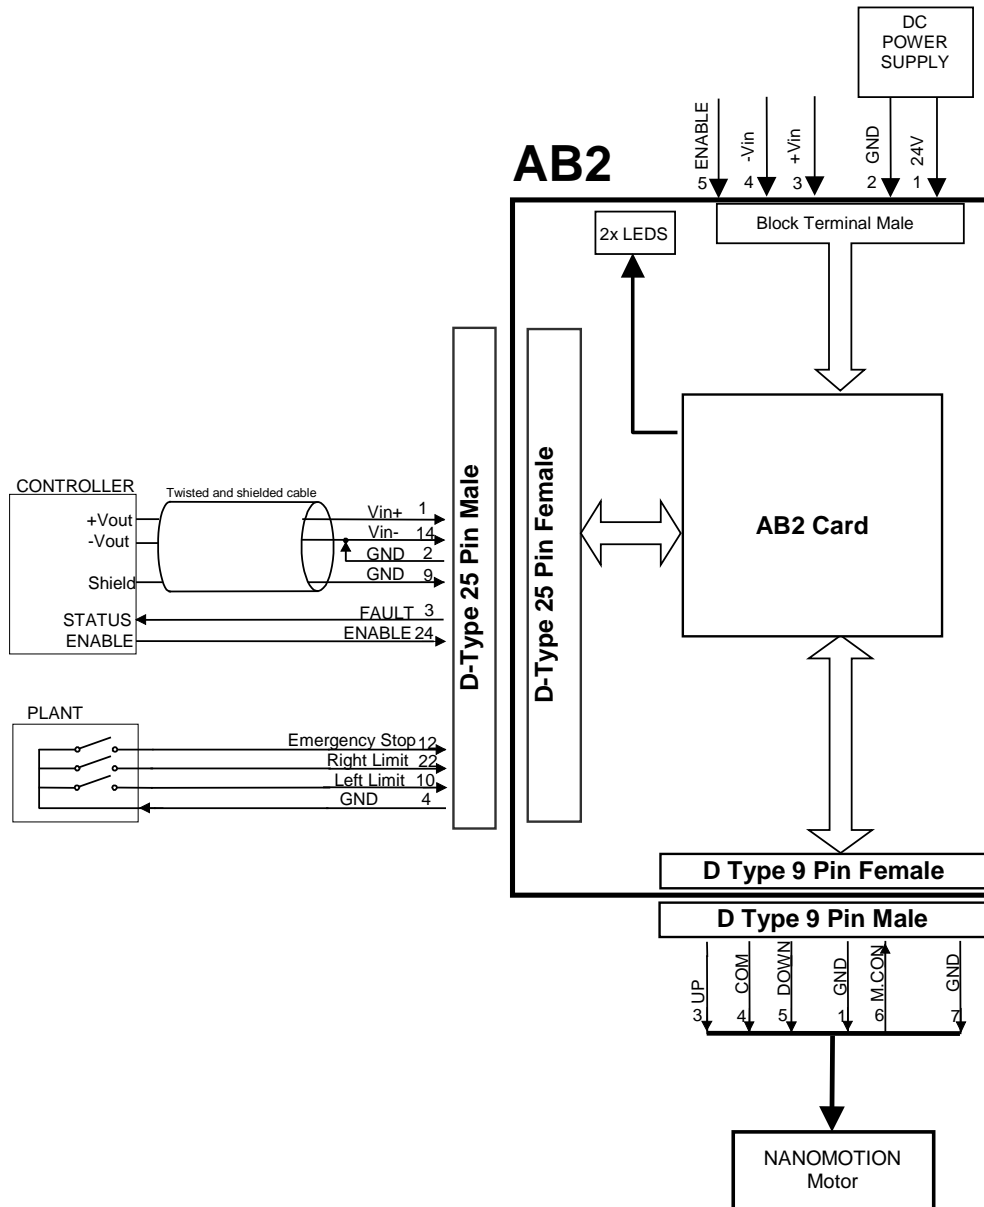

Figure 5: Non-Differential (single-ended) Analog Input Connection.
| Figure 5: Non-Differential (single-ended) Analog Input Connection..... | 17 |
- Single-Ended Connection (see Figure 5)